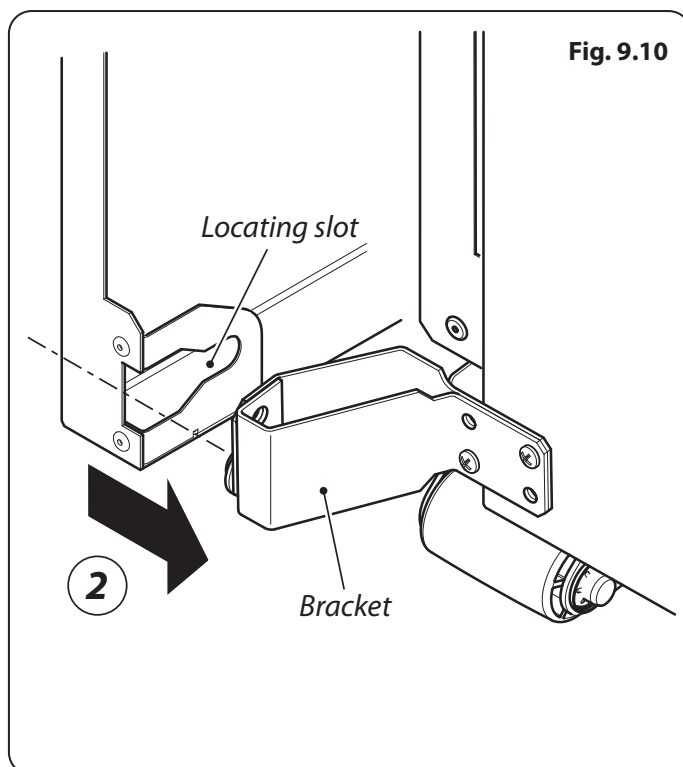

Fig. 9.10
3. Slide the side panel back so that the **side panel bracket** in the base connects to the **rear retaining washer** and the slotted tab at the top rear connects onto the screw in the flue vent (**Fig. 9.10**).